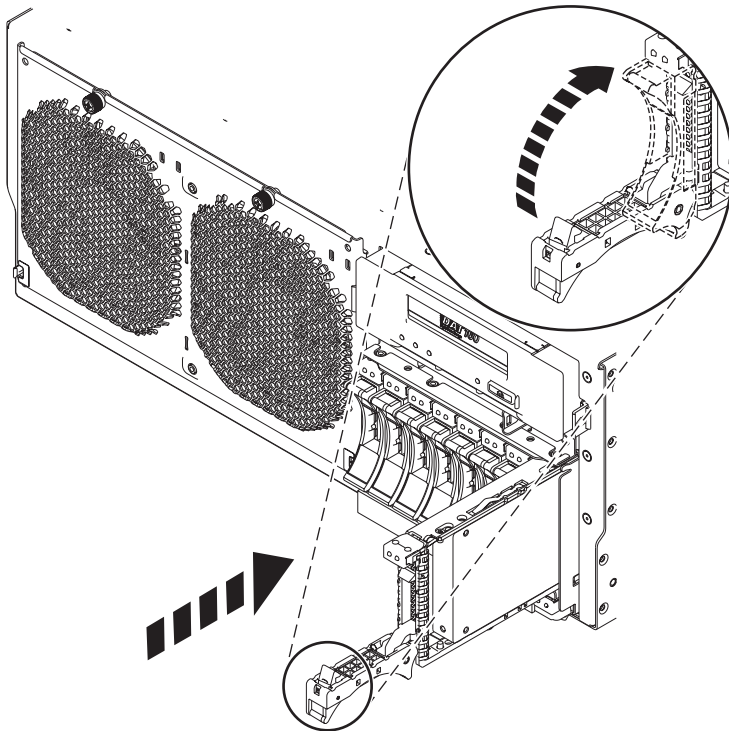

Figure 53. Replacing a disk drive or solid-state drive in the system
6. Slide the disk drive or solid-state drive all the way into the system or an expansion unit, and push the drive handle **(A)** in until it locks, as shown in Figure 53.